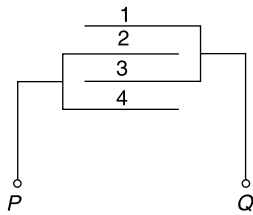

Fig. 2.66
26. If the capacitance between two successive plates is $0.5C$ (Fig. 2.66), find the capacitance of the equivalent system between points P and Q .